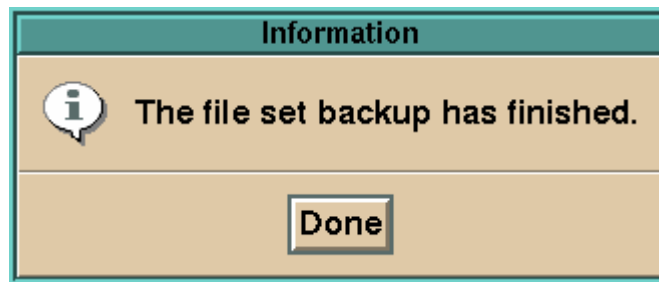

Fig. 6.10-5 Dialog to exit from Backup
- (7) Upon completion of the backup process, the dialog shown in Fig. 6.10-5 is displayed. After confirmation, click [Done] button.